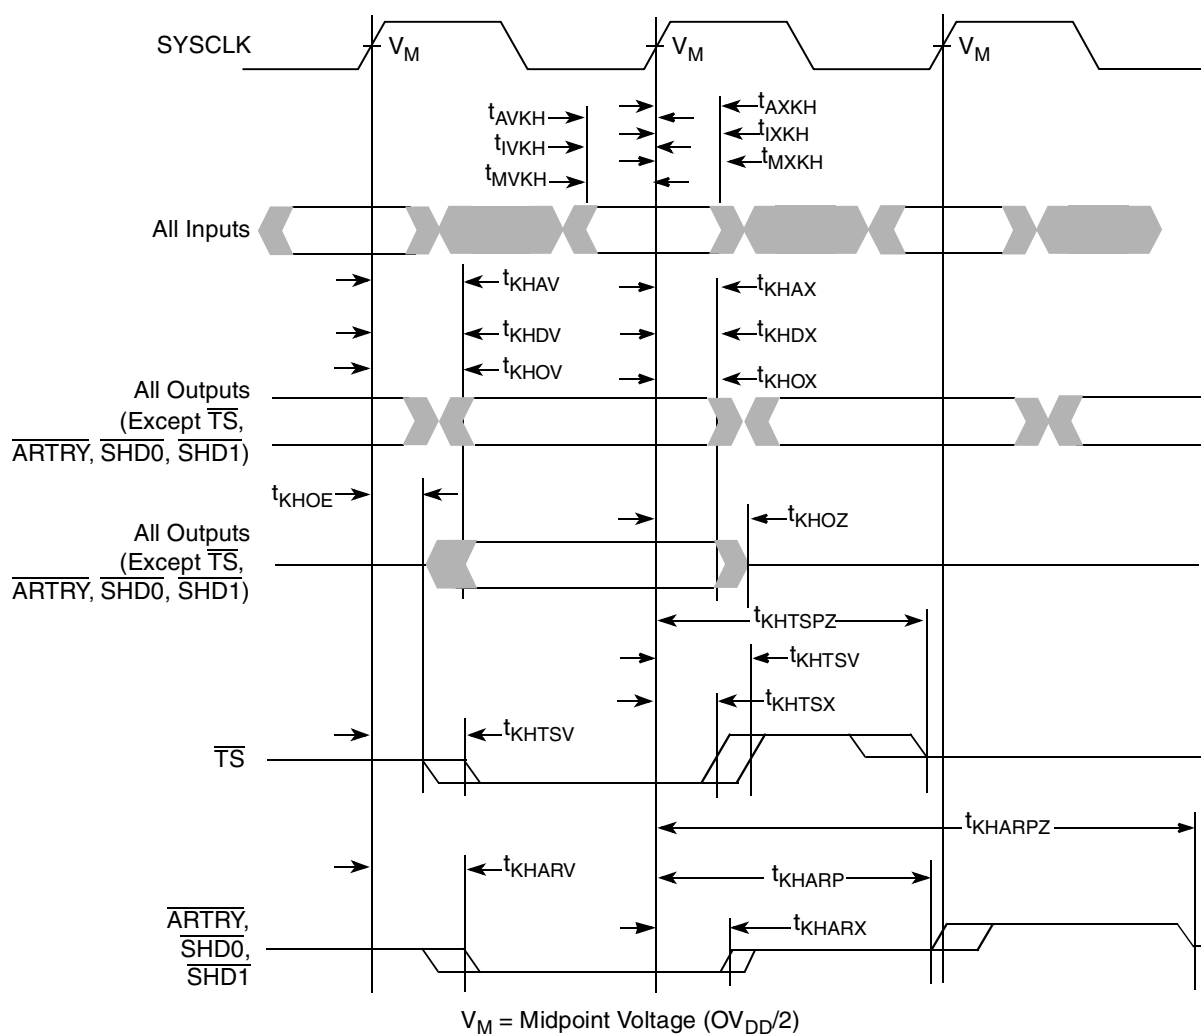

Figure 6. Input/Output Timing Diagram
- The symbology used for timing specifications herein follows the pattern of  $t_{(\text{signal})(\text{state})(\text{reference})(\text{state})}$  for inputs and  $t_{(\text{reference})(\text{state})(\text{signal})(\text{state})}$  for outputs. For example,  $t_{\text{VKH}}$  symbolizes the time input signals (I) reach the valid state (V) relative to the SYSCLK reference (K) going to the high (H) state or input setup time. And  $t_{\text{KHOV}}$  symbolizes the time from SYSCLK(K) going high (H) until outputs (O) are valid (V) or output valid time. Input hold time can be read as the time that the input signal (I) went invalid (X) with respect to the rising clock edge (KH) (note the position of the reference and its state for inputs) and output hold time can be read as the time from the rising edge (KH) until the output went invalid (OX).
- According to the bus protocol,  $\overline{\text{TS}}$  is driven only by the currently active bus master. It is asserted low and precharged high before returning to high impedance, as shown in Figure 6. The nominal precharge width for  $\overline{\text{TS}}$  is  $t_{\text{SYSCLK}}$ , that is, one clock period. Since no master can assert  $\overline{\text{TS}}$  on the following clock edge, there is no concern regarding contention with the precharge. Output valid and output hold timing is tested for the signal asserted. Output valid time is tested for precharge. The high-impedance behavior is guaranteed by design.
- According to the bus protocol,  $\overline{\text{ARTRY}}$  can be driven by multiple bus masters through the clock period immediately following  $\overline{\text{AACK}}$ . Bus contention is not an issue because any master asserting  $\overline{\text{ARTRY}}$  will be driving it low. Any master asserting it low in the first clock following  $\overline{\text{AACK}}$  will then go to high impedance for a fraction of a cycle, then negated for up to an entire cycle (crossing a bus cycle boundary) before being three-stated again. The nominal precharge width for  $\overline{\text{ARTRY}}$  is  $1.0 t_{\text{SYSCLK}}$ ; that is, it should be high impedance as shown in Figure 6 before the first opportunity for another master to assert  $\overline{\text{ARTRY}}$ . Output valid and output hold timing is tested for the signal asserted. The high-impedance behavior is guaranteed by design.
Figure 6 provides the input/output timing diagram for the MPC7448.